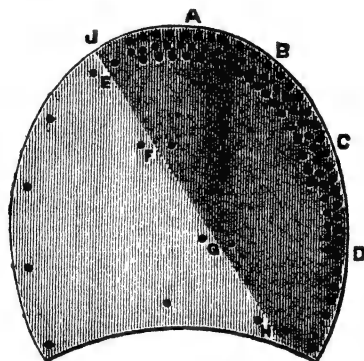
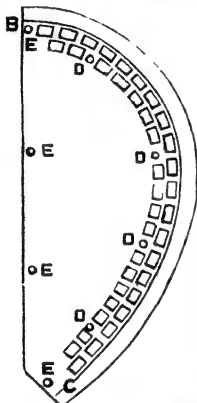
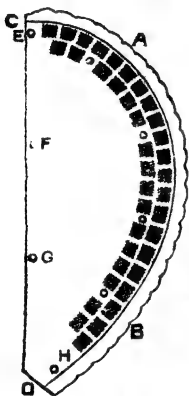
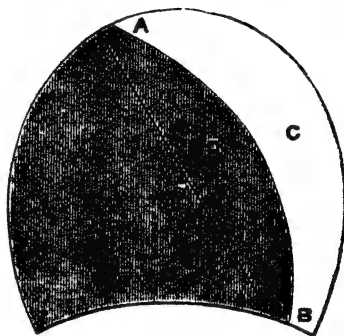

Fig. 2.—New Half Heel with Rivets to Resist Wear.
Fig. 3.—Half-Heel Piece Holed and Hammered.
Fig. 8.—Half-Heel Piece Bradded.
Fig. 10.—Heel Prepared for Half-tip.
half of it, which can be replaced with any corner of hard sole leather that would be almost useless for any other purpose. To remove half of the top-piece, cut it across at B C, and should the lift be worn, saw or cut that through as well at D E; tack a piece of leather on to take the place of the worn piece of lift, putting the tacks in at F and F. Then trim it round, and put some odd corner of hard sole leather on in like manner, to take the place of the worn part of the top-piece. Trim this also, and nail it as shown in Fig. 2. In this case, four of the rivets
Before letting new heels wear away, take a piece of paper with one straight line and lay this across the heel, from J to H (Fig. 2); hold it with two fingers of the left hand quite firm at F and G; then with the right hand smooth it down over the edge from J, passing A, B, C, and D on to I; this will leave a mark on the paper. Cut out to this mark, and it will give a good pattern of a half-heel piece, as Fig. 3, without the outside line A. To this cut another pattern out of stiff cardboard, as it will very often be wanted for use.
When leisure occurs cut sole leather to pieces of this pattern, leaving  $\frac{1}{4}$  in. on all round the curved side A (Fig. 3), to give room for nailing. Here it will be necessary to explain how to make an awl for this purpose, as, unlike all other awls, such awls cannot be bought ready for use, but it is a tool that saves much time and disappointment.
The piece of leather in Fig. 3 should be of good
irregular-looking than shown in Fig. 3; but this does no harm, for so long as the awl is held in the same position for each hole, the brads are sure to follow into their proper places.
It has been stated above that the awl should be of the same shape as a French brad, which is shown in Fig. 7; but there is another kind of brad of similar shape, only it is much shorter and a little stouter, as shown in Fig. 6. This is called a cut-bill, and it is this brad that must be used to put into the holes made in Fig. 3. Let the length of the brads be as nearly equal to the substance of the leather as possible; lay the leather upon a piece of wood, and knock the brads in the square holes one at a time. When they are all in, take the leather off the wood, and lay it on the lap-iron with the points of the brads upwards. These, if they are not too far through, can be clenched and made smooth by tapping with a hammer; but if they are through far before trying to clench them, they must be cut off with a pair of cutting tongs close to the leather.
This done, the half-heel is ready for use. Several may be prepared, and then all that is necessary to half-heel the boots is to cut the top-piece across, as shown, from J to H (Fig. 2), take away the worn part, and replace it with the new piece. Fig. 8 shows where it should be bradded, and also the places for eight  $\frac{1}{4}$  in. rivets; these are all that is necessary to hold the piece on, and will allow it be taken off easily when another heel-piece is wanted.
It will be found that the small margin, A B (Fig. 8), after the brads have been put in, has become somewhat contracted. This is why the extra  $\frac{1}{4}$  in. of leather was left, for it would break if nailed close to the edge. Now
you can trim up the edge of the piece to the edge of the heel, cutting close to the brads, on the line c to d, and finish in the ordinary way. The first time the boots are half-heeled, it will be necessary to put four rivets in the old leather at e, f, g, and h (Fig. 8), to keep it from ripping off.
9), price 1d. Put one on the heel in its proper position, mark round the inside from A to B (Fig. 10), and cut away the part, c, that the tip is going to replace. Lay the tip on the lap-iron face down, and hollow it in the centre, that it may grip well at both ends, then dip it in water to soften the leather plugs, and put it on the heel. With a fine awl make a hole through the centre of each plug, and put a long rivet, which would be supplied with the tips, in each hole. Smooth it up with a file where rough, and you have a new lease of heel wear for 3d., and a very little trouble. If it is found difficult to cut the curved line to fit the tip from A and a, cut the heel straight across, as in Fig. 2, from J to H, and after the tip is on cut a small piece, as D (Fig 10),